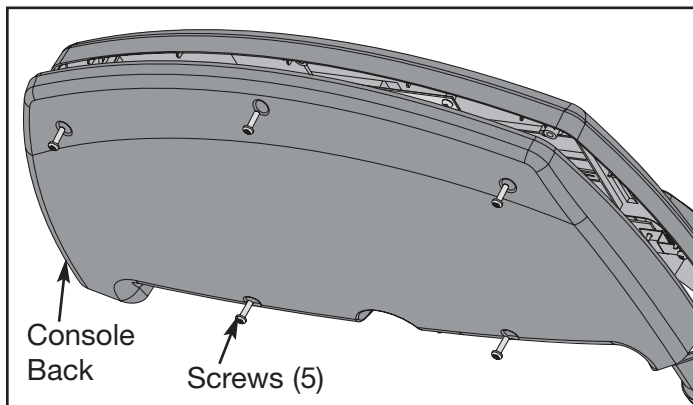

Figure 24
- A. Using a Phillips head screwdriver, remove the five screws securing the top console back to the console front. See Figure 24.